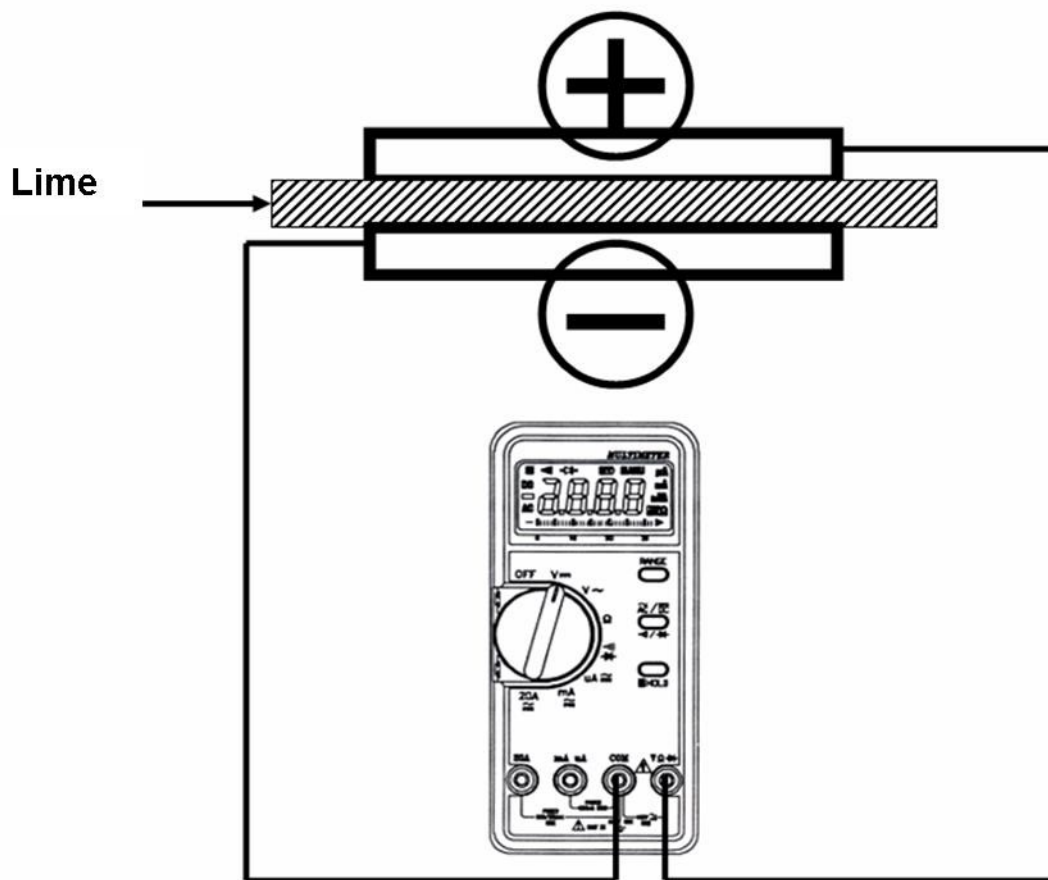

Figure I-2
2. Use metal B as the positive electrode (+) and metal A, C and D as the negative electrode (-) in different setups, measure the voltage generated by these fruit batteries. Wire connections are shown in Figure I-2.